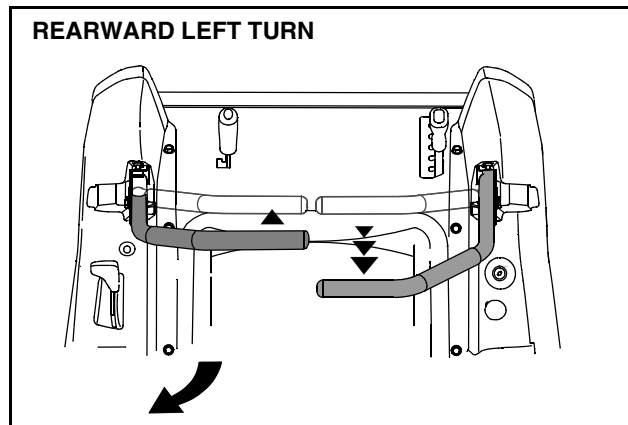

Figure 14
- To turn to the left while traveling in reverse, move the left drive control lever forward of the right lever. See Figure 14.